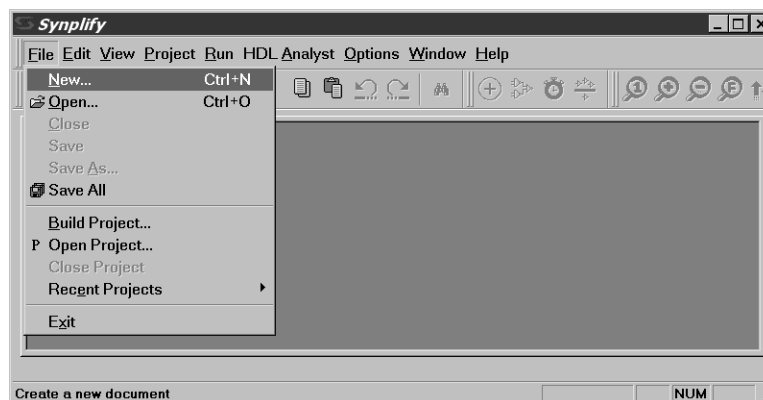

Figure 5-1: Create a New Project
1. Start Synplify and choose File > New (Figure 5-1), or click the new file icon on the tool bar.